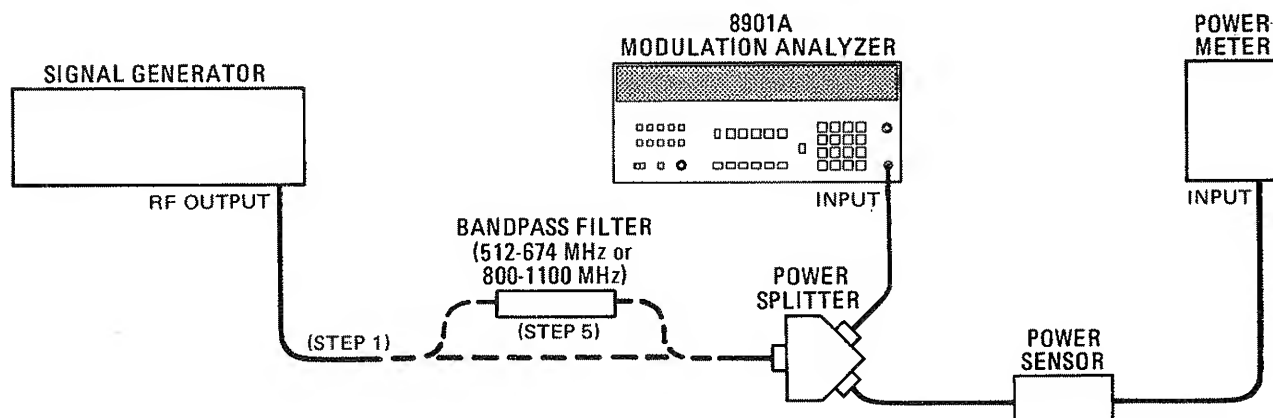

Figure 4-7. RF Level Accuracy Performance Test Setup
2. Connect equipment as shown in figure 4-7.